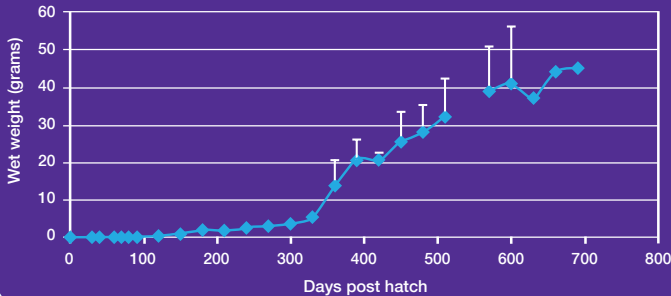

Figure 2. Growth of a cohort of Ballan wrasse from hatch to 22 months
**Figure 2** shows the growth of Ballan wrasse over a two year period: though the fish were only 45g mean weight after 22 months of cultivation, this example is from one of the earliest reared batches and the duration of weaning to dry feed was slower than in more recent farmed fish cohorts.